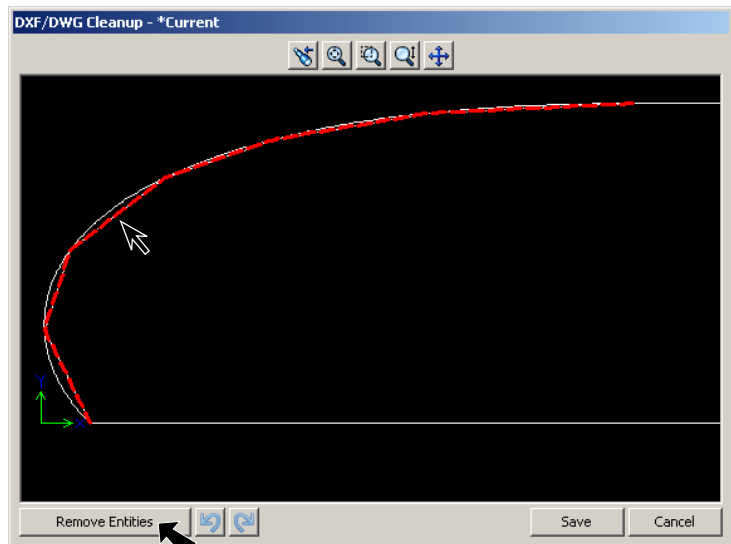
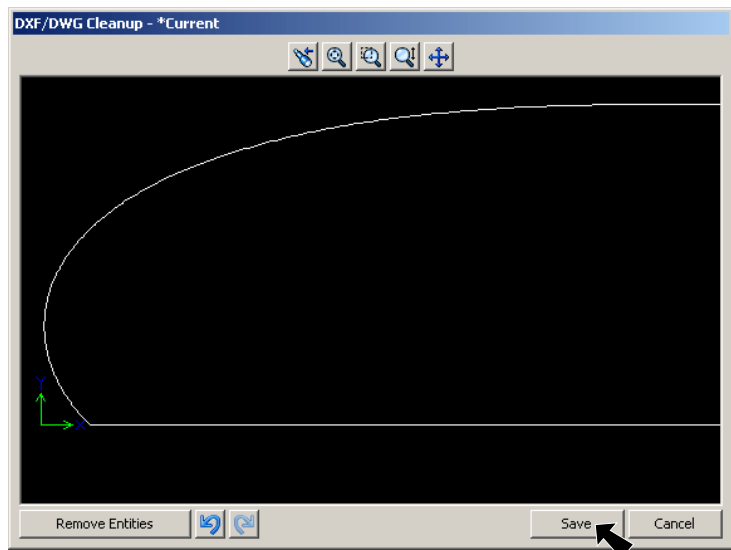

Fig. 9
Fig. 10
To remove, **select the segmented spline** and click **Remove Entities**, **Fig. 9** and **Fig. 10**.
Step 11. Click **Save**, **Fig. 10**.